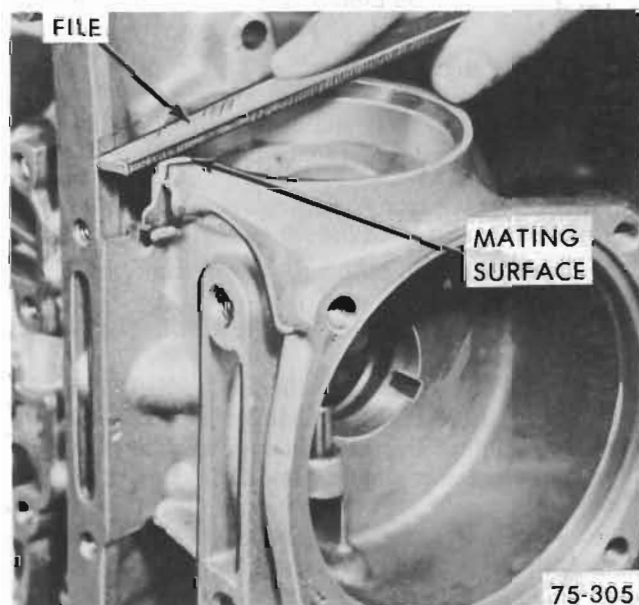

Figure 76-280
4. Clean off excess stock from the governor o-ring seal to case mating surface. See Figure 76-280.